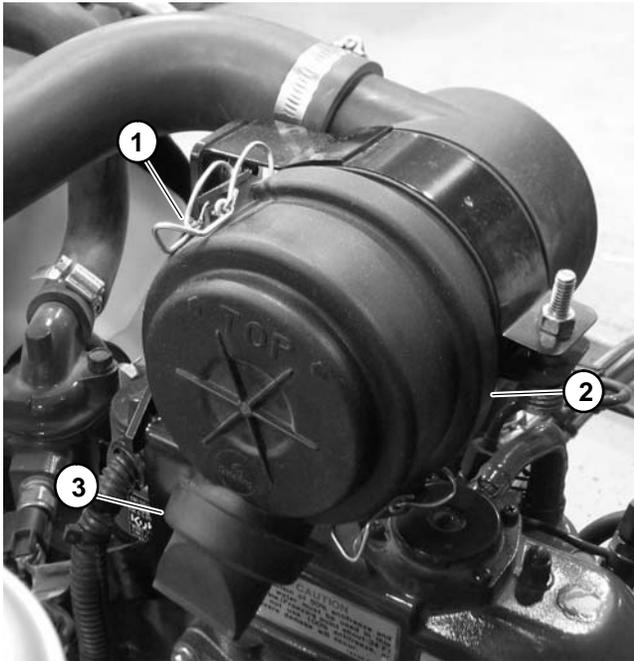

Figure 3
2. Check air cleaner body for damage that could cause possible air leaks. Make sure dust cup seals completely to the air cleaner body (Fig. 3).